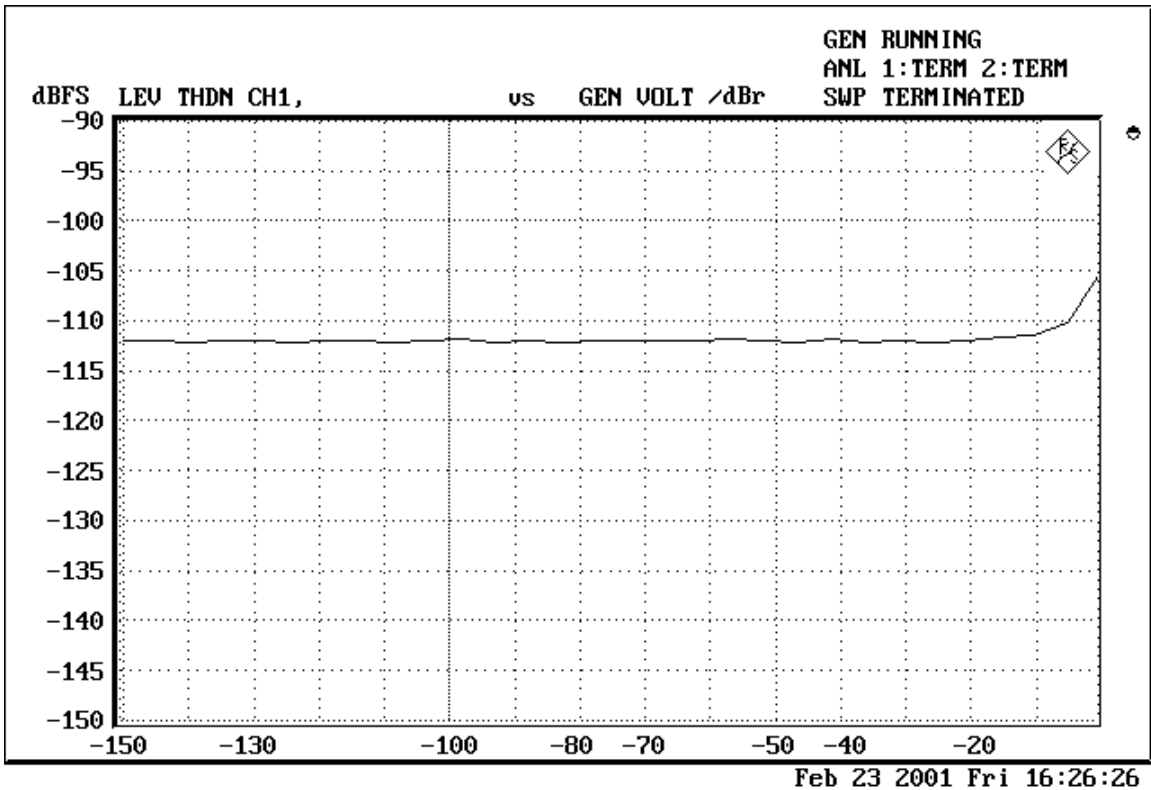

Figure 2-1-5. THD+N vs Input Level (1kHz input)
- Figure 2-1-5. THD+N vs Input Level (1kHz input)